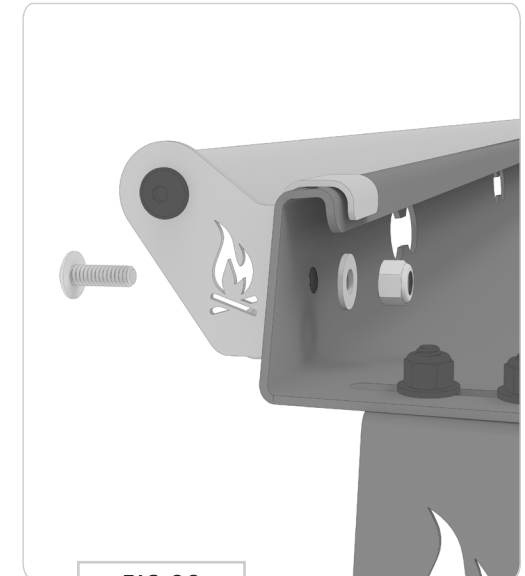

FIG 22
**6.4 Install Curtain Rod to Headliner Shelf:** Hang the **Curtain Rod** back onto the **Headliner Shelf**. Put remaining **Screws** through the drilled mounting holes and secure with a **Flat Washer** and **Nylon Locknut** (FIG 22).